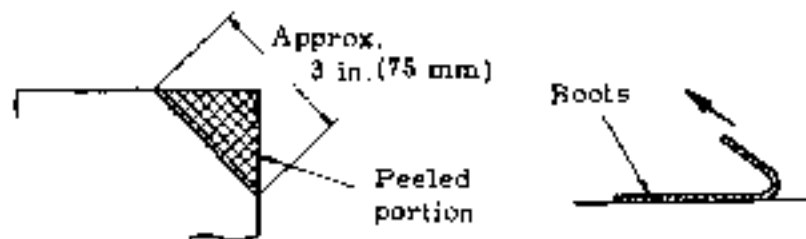

Fig 2-52
(See Fig 2-52)
- a. Peel the edge of the boots with toluol as shown in Fig. 2-52, pull the edge with fingers and check adhesion.